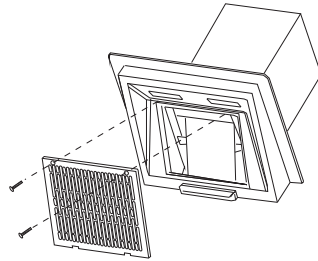

Fig.11
1. Remove the grease filter by unscrewing 2pcs screws. This will disengage the filter from the hood. Tilt the filter downward and remove(Fig.11).